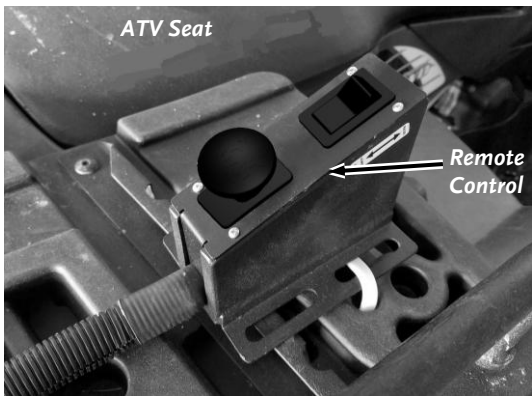

Figure 10a: ATV Mounting
1. Position the Remote Control on your Tow Vehicle within reach of the seated Tow Vehicle driver (Figure 10a and 10b).